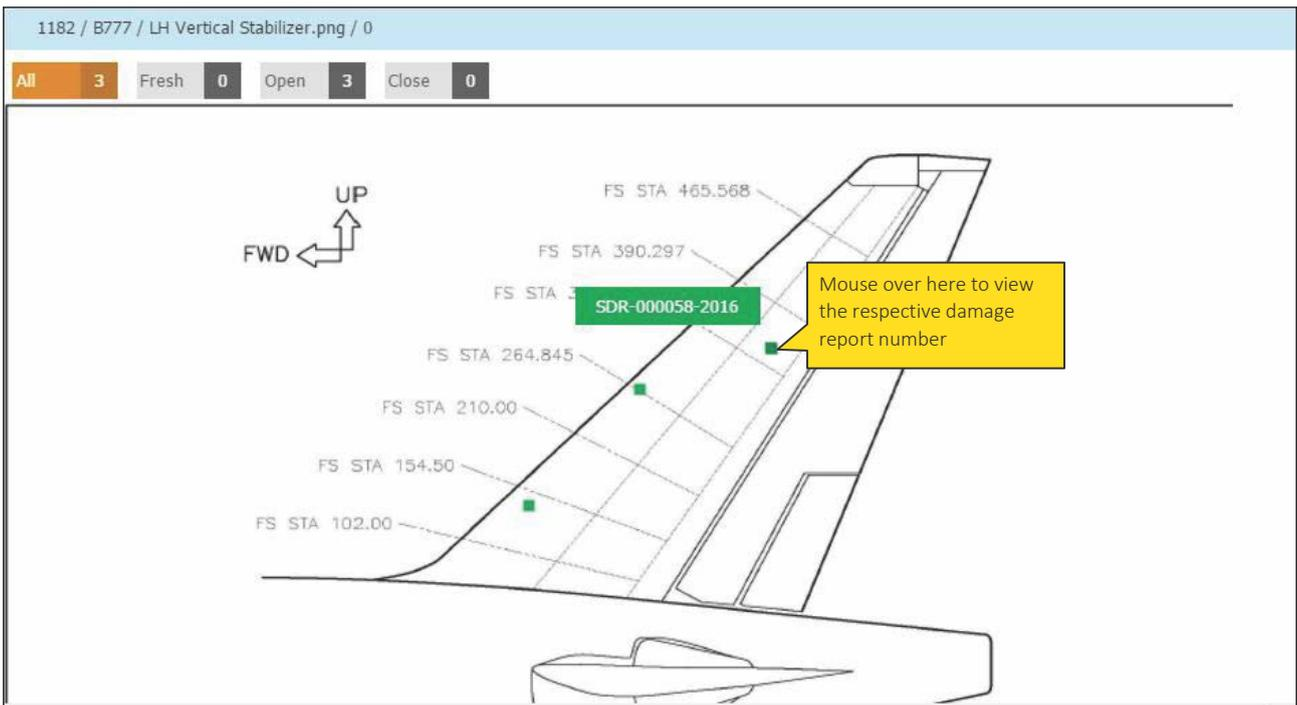

Figure 3.9 Mouse over
2. Mouse over the damage point marking in the chart to view the damage report number. *See Figure 3.9.*